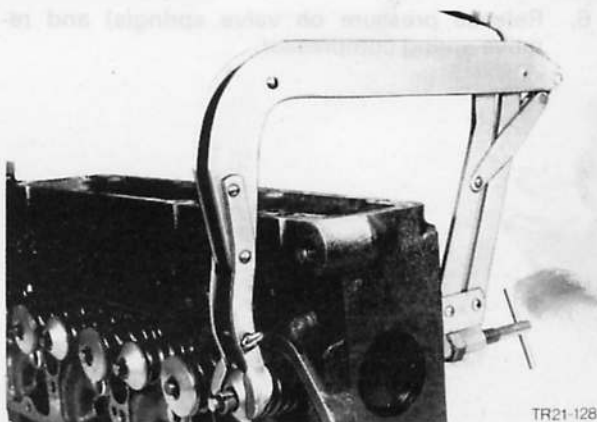

Fig. 114. Compress valve spring using standard compressor
3. Compress valve spring(s) using standard valve spring compressor, Fig. 114. Remove collets, release pressure on spring(s) and remove spring(s) and spring retainer. Withdraw valve stem seal and remove valve. Fit valve spring compressor to next valve and similarly remove remaining valves.